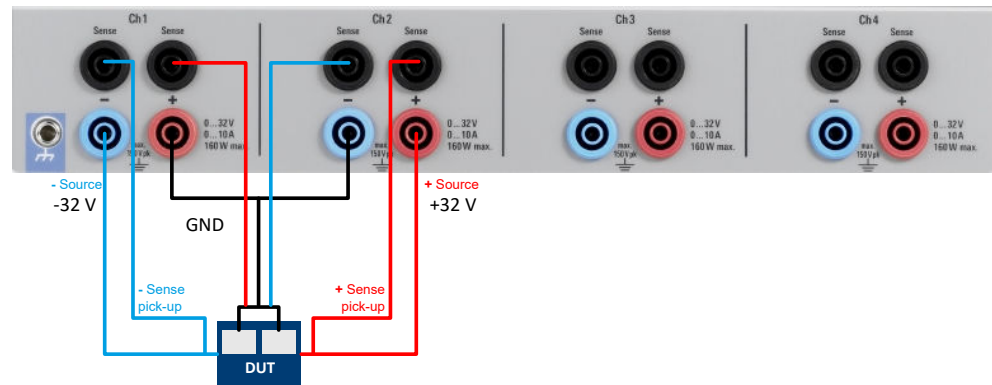

Figure 5-5: Example of a multi-quadrant connection
But you can generate a negative voltage by connecting two channels with common GND as shown in Figure 5-5. This setup achieves a voltage range between -32 V and +32 V. A negative current (current sink) is not possible.
- a) Connect both ground cables to the DUT, as shown in Figure 5-5.